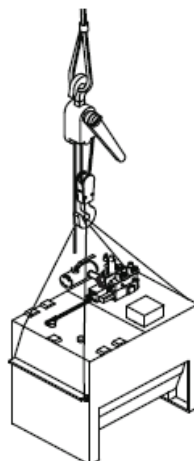

Figure 1- Pump unit lifting with ropes
- Load and unload the pump units using clamp trucks. If the pump unit has to be lifted with ropes, make them pass under the handles (see Figure 1).
- The tank is equipped with handholds to be displaced manually and to be lifted with an hoist (see Figure 1).